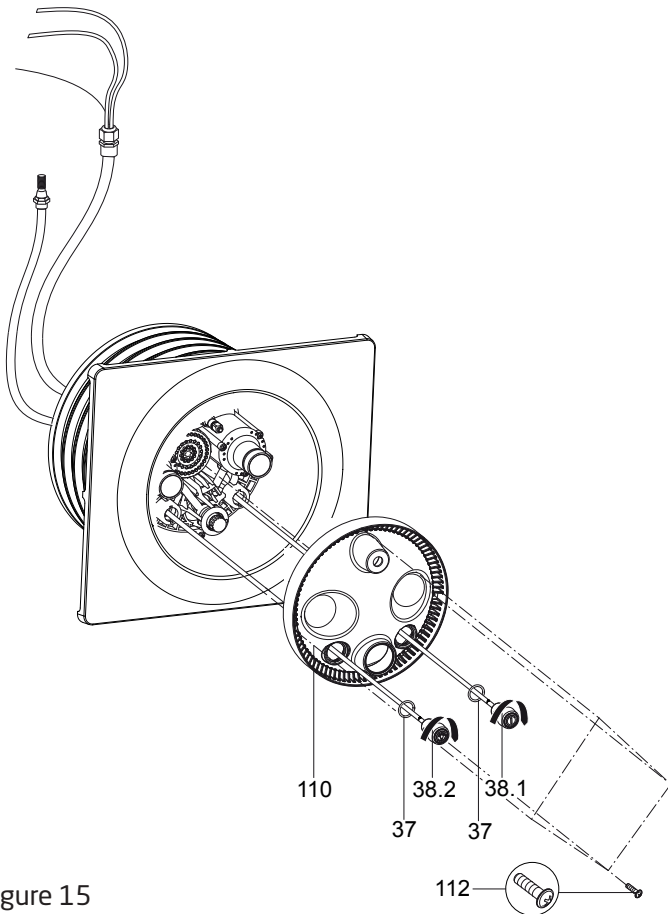

Figure 15
7. Align the complete nozzle housing to the main jet housing and fasten the ten (10) pre-assembled tapping screws. All screws should be **HAND TIGHT**. **DO NOT** use drills or pneumatic tools. **DO NOT** over tighten!
8. Place the rectangular cover (part# 93) against the clamping ring (part #28) and fasten with four (4) 8.4mm washers (part# 94) and four (4) M8 x 20 machine screws (part# 95) and cover the openings with the rectangular covers (part# 96). All screws should be **HAND TIGHT**. **DO NOT** use drills or pneumatic tools. **DO NOT** over tighten! Make sure the UP label is in the correct position.
9. Align the light cover (part# 110) with the nozzle housing and secure with four (4) light cover tapping screws (part# 112). (See Figure 15)